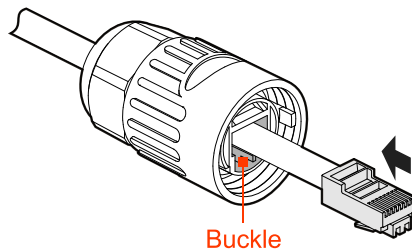

Figure3-30 Buckle position
- Step 2 After crimping, insert the RJ45 plug into the buckle (as shown in Figure3-30), and then, screw the RJ45 port.